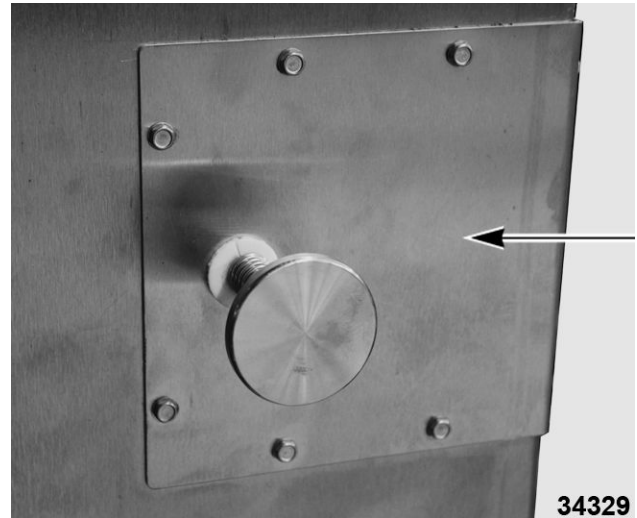

Fig. 76
- A. Remove inner door handle cover (Fig. 76).